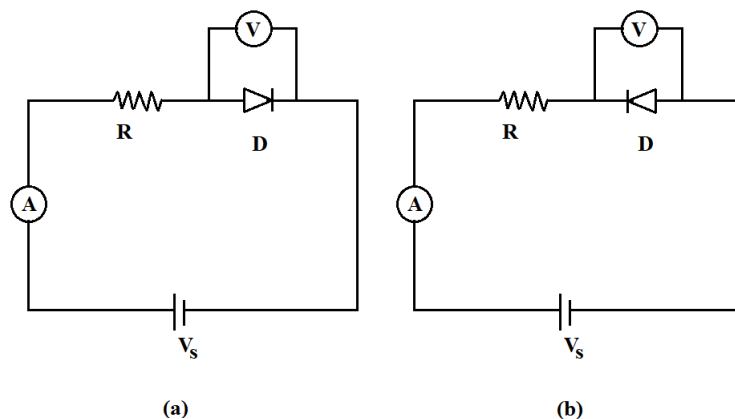

Figure 5: (a) Forward feed (b) Backward feed circuits.
1. Build the circuit given in Figure 5(a).
1. Build the circuit given in Figure 5(b). To do so, just remove the diode and attach it again backward.